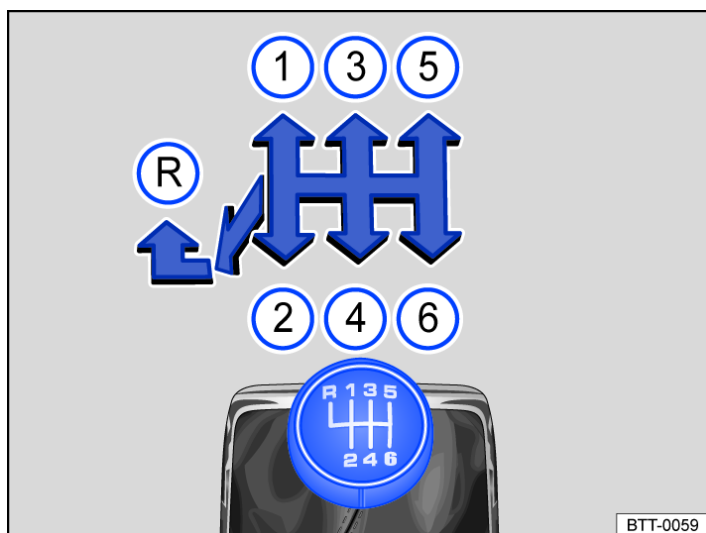

Fig. 1 Gear shift pattern of a 6-speed manual gearbox.
- Push the gear lever fully to the left and then forwards into the reverse gear position → Fig. 1 (R).